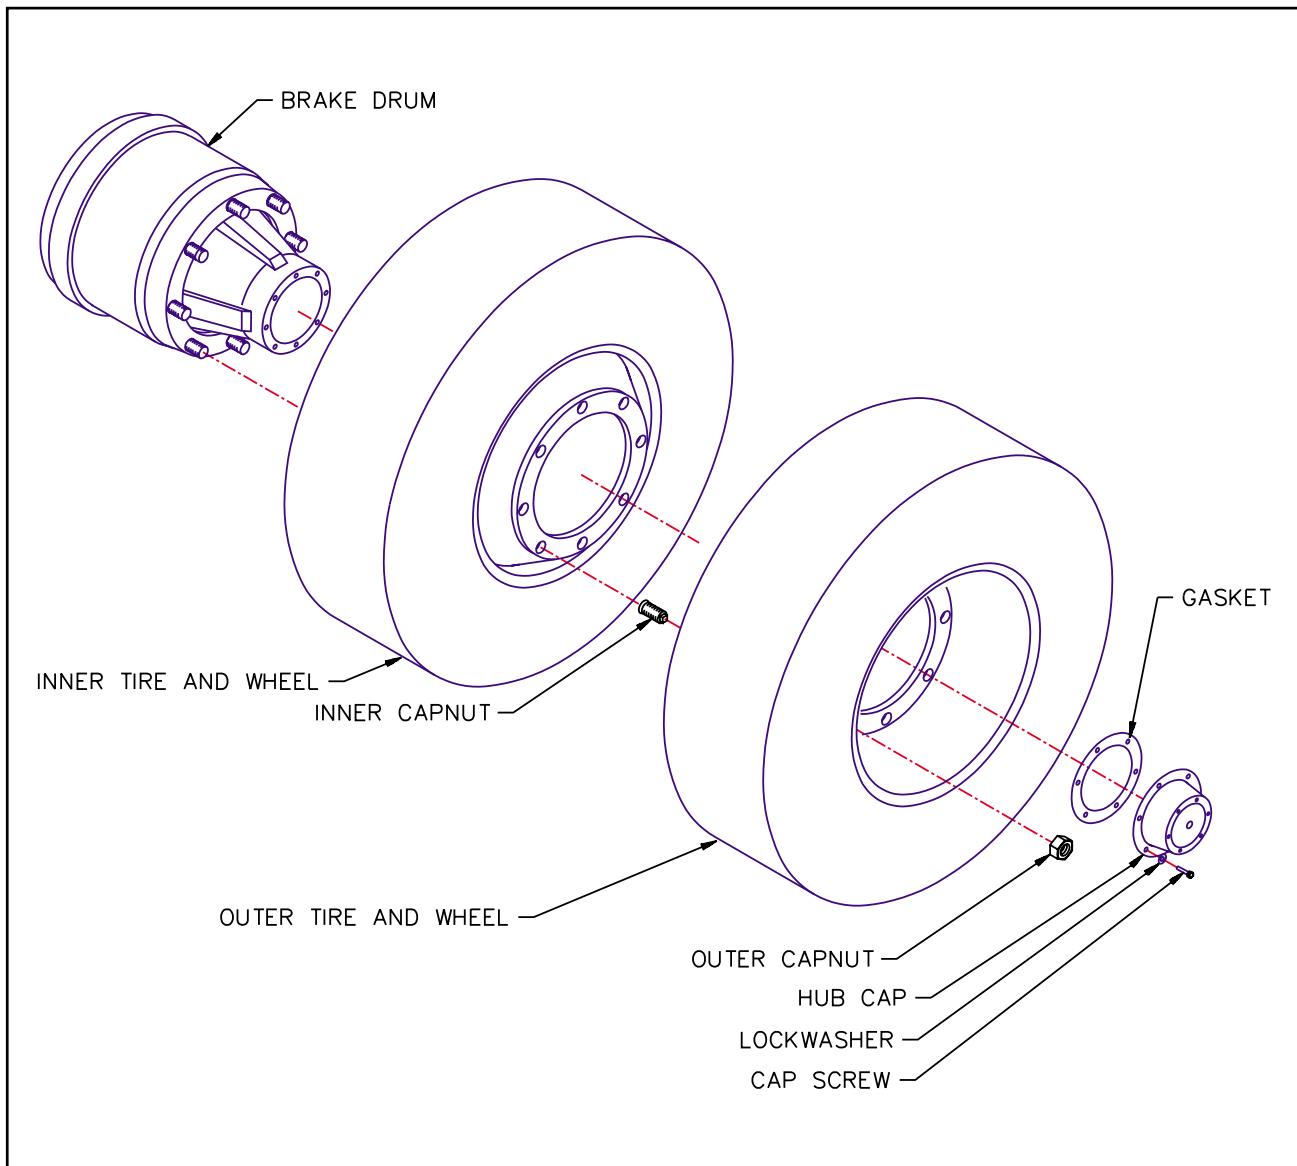

Figure 4-16 Mounting Tires and Wheels
- a. Make sure that all mounting surfaces are clean and free of rust, dirt or paint. A wire brush may be used to clean these surfaces (See Figure 4-16).